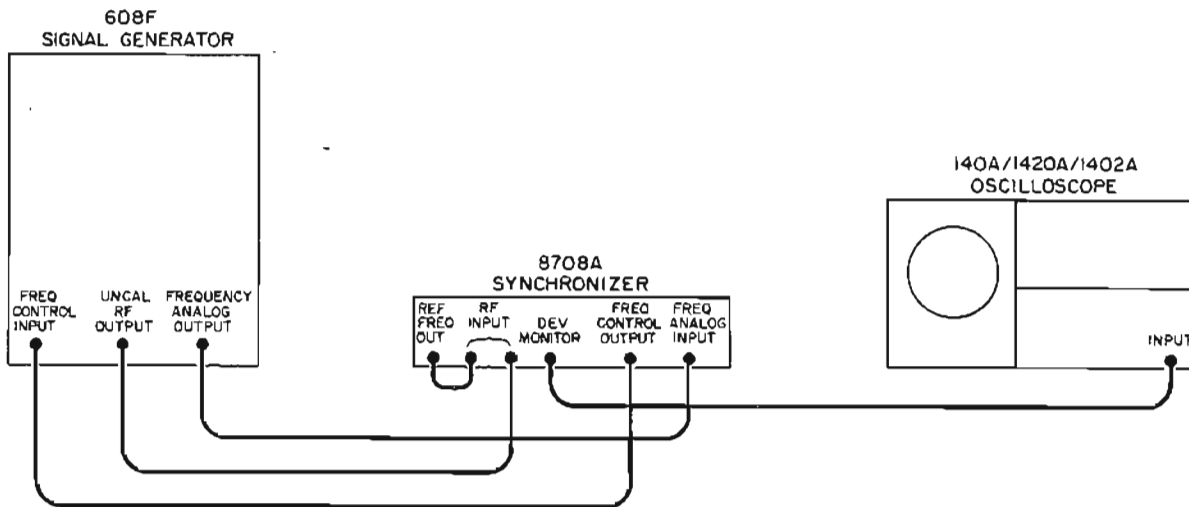

Figure 5-12. Synchronization Test Setup
- a. Connect signal generator in test setup illustrated in Figure 5-12.